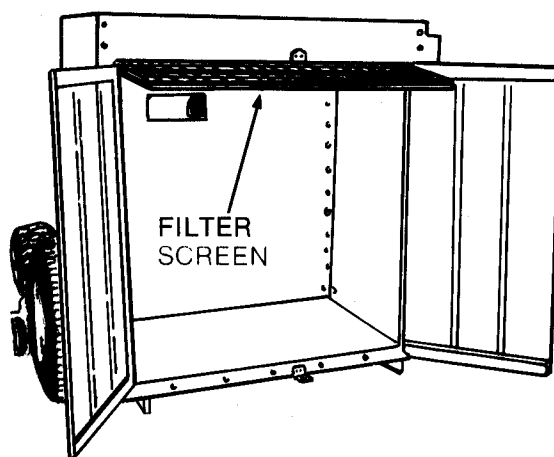

FIG. 17 - LOCATION OF FILTER SCREEN
Step 17: Slide filter screen in slots at top of container as shown in figure 17.